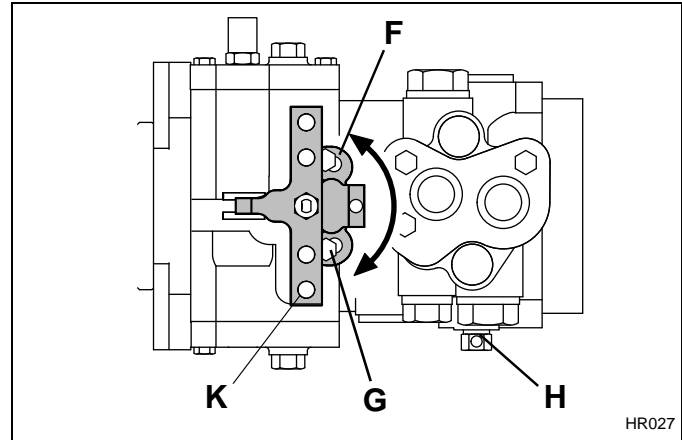

Figure 3H
1. Make sure return arm (**K-Figure 3H**) on pump is adjusted to neutral, **Section 3.6**.